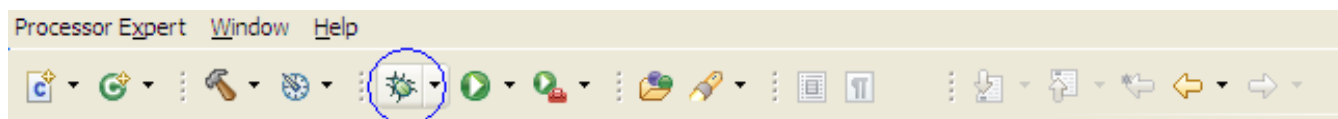

Figure 13. Flashing image
1. Use the debug icon located in the tool bar as shown in Figure 13